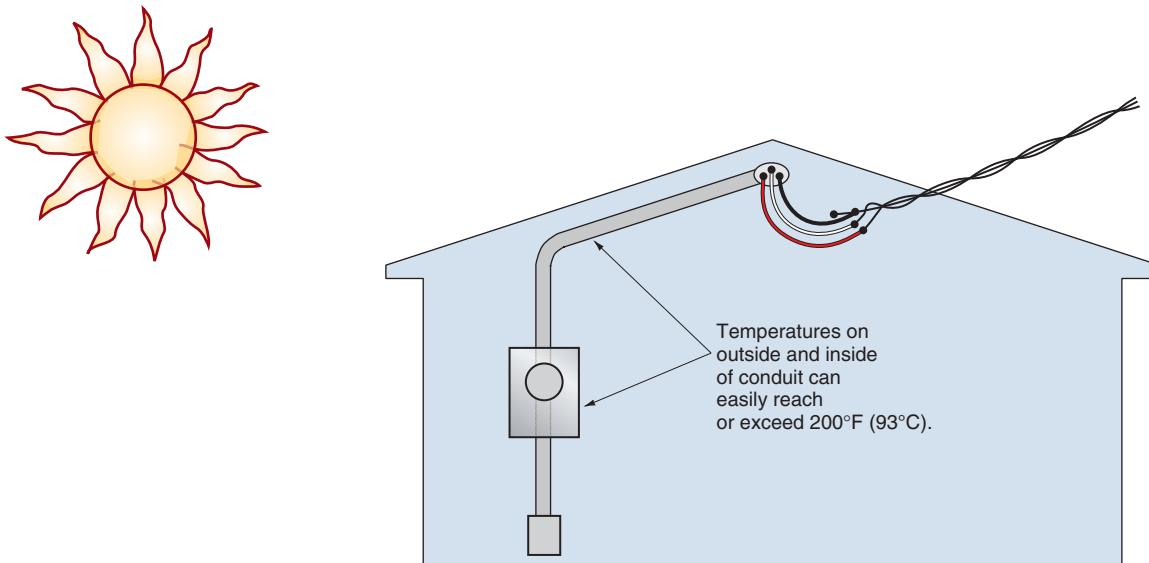

FIGURE 29-1 Example of a high-temperature location. (*Delmar/Cengage Learning*)
In certain parts of the country, such as the southwestern desert climates where extremely hot temperatures are common, the AHJ will probably enforce 310.10(D) and 310.15(A)(3) regarding temperature limitations of insulated conductors. This means that conductors in raceways or cables exposed to direct sunlight (on a roof or side of a building) be corrected (derated) according to the “Correction Factors” found in Table 310.15(B)(2)(a). See Figure 29-1.